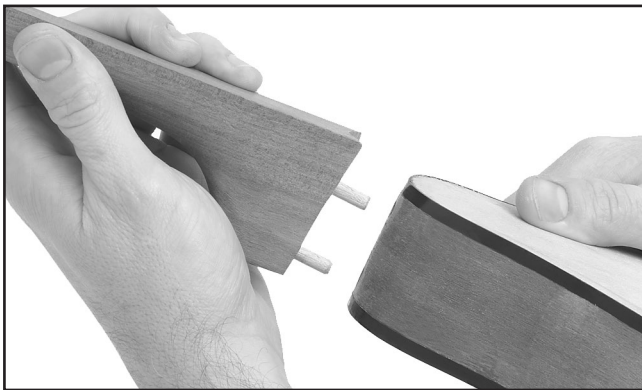

Figure 15. Test fitting the neck.
1. Test fit the neck by pushing the dowels into the body of the mandolin and sliding the neck onto the dowels as shown in **Figure 15**. DO NOT glue the joint at this time.